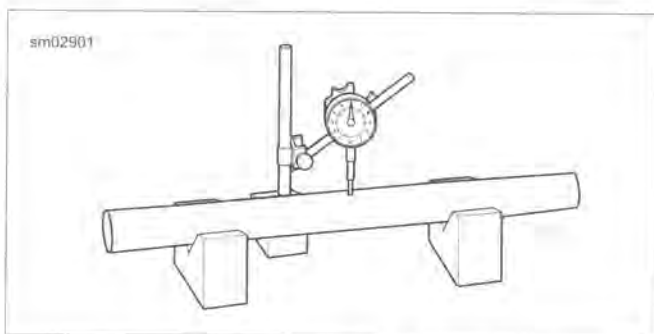

Figure 2-99. Measure Fork Tube Runout
7. See Figure 2-99. Check runout with a dial indicator